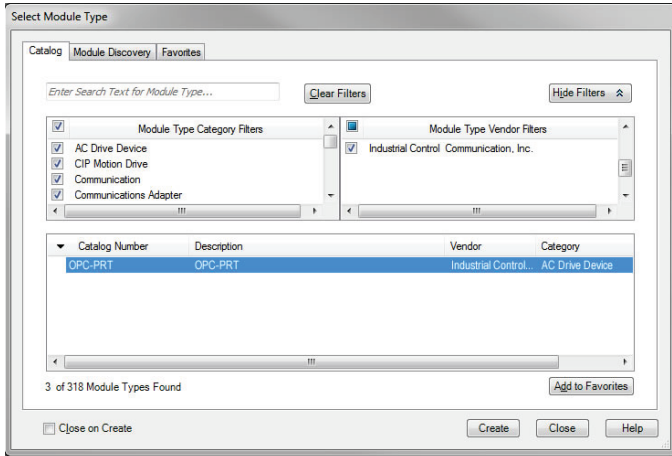

Figure 45: Adding a New Interface Card Module
- 11) Find the interface card in the "Select Module" dialog box as shown in Figure 45.